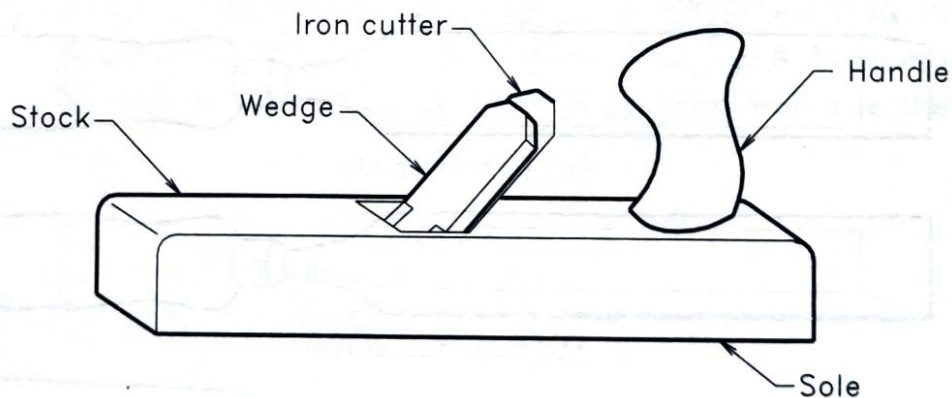

FIGURE 6.8
1. *Wooden jack plane:* This is the most commonly used plane in carpenters shops. The main part of a wooden jack plane is a wooden block called *sole*, to which a steel blade having knife edge is fixed at an angle with the help of a wooden wedge. The angle of the blade is kept about 45° to the bottom surface of the blade (Figure 6.8). The size of the blade is taken as 50 to 75 mm. The knife edge of the blade is kept projecting 0.8 to 1.6 mm for roughing and 0.8 mm to lower value for finishing.